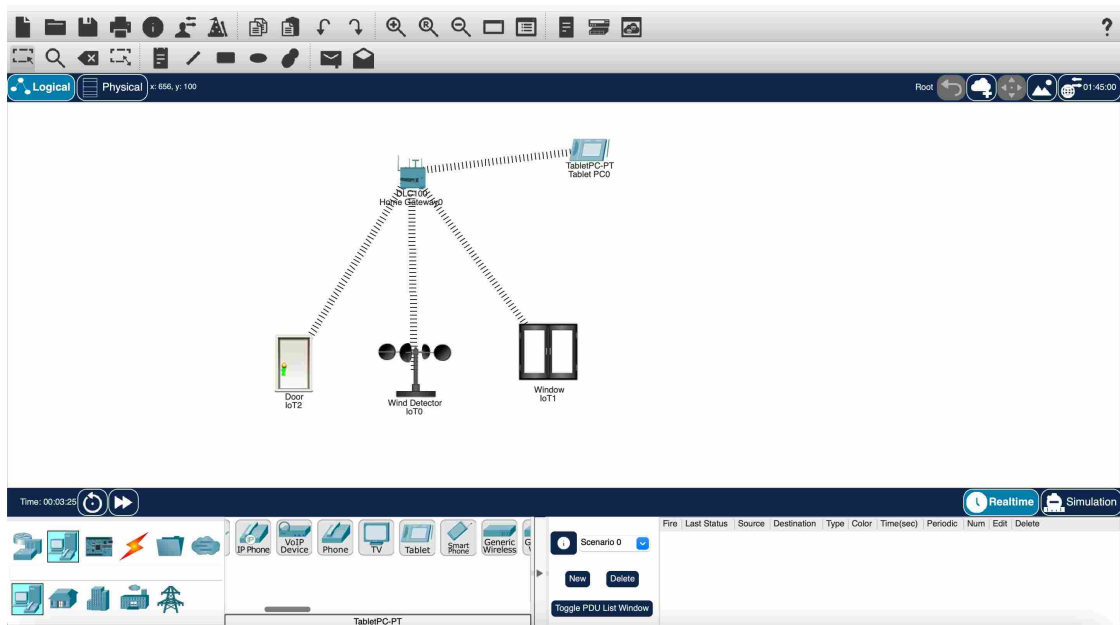

Figure 4.4: Wireless connection established between Tablet and Gateway.
- Look for a dotted or curved line connecting the Tablet to the Gateway in the workspace (Figure 4.4).